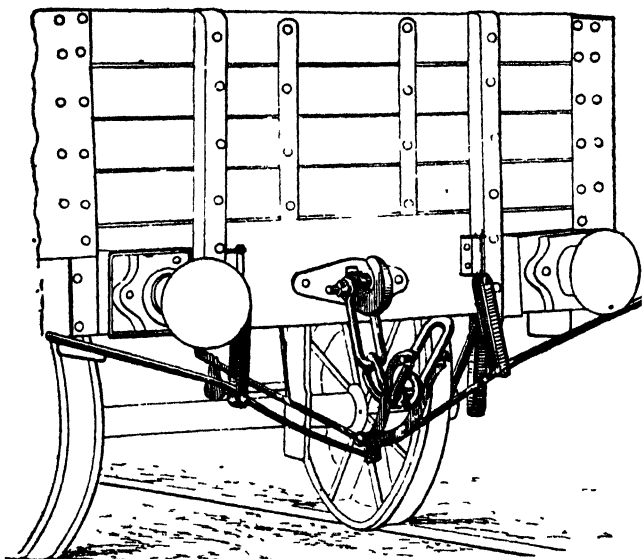

Fig. 30.—Younghusband and Hudson, Darlington (1st prize, non-automatic).
*1st prize, non-automatic, £100 (Fig. 30).*